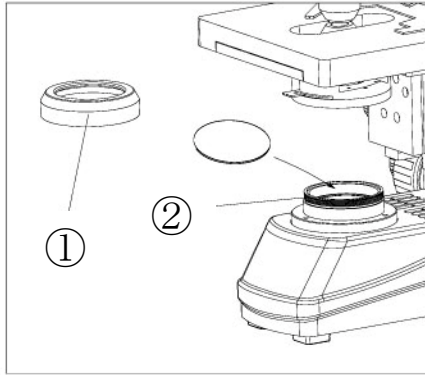

Fig. 13
Using a small jeweler's flathead screwdriver, remove the set screw that secures the illuminator housing cover ① to illuminator condenser. Install the filter (rough side downward) onto the groove of the illuminator condenser ②. Place the cover back on the illuminator condenser and re-install the set screw (Fig. 13).